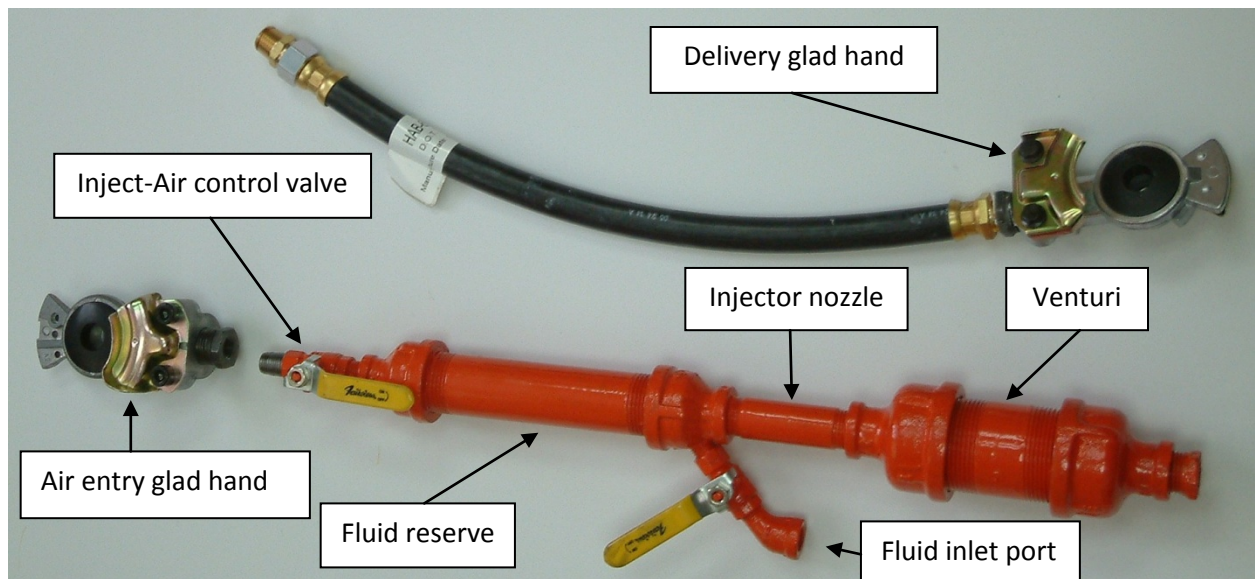

Fig. 1
* Refer to fig. 1 to identify components